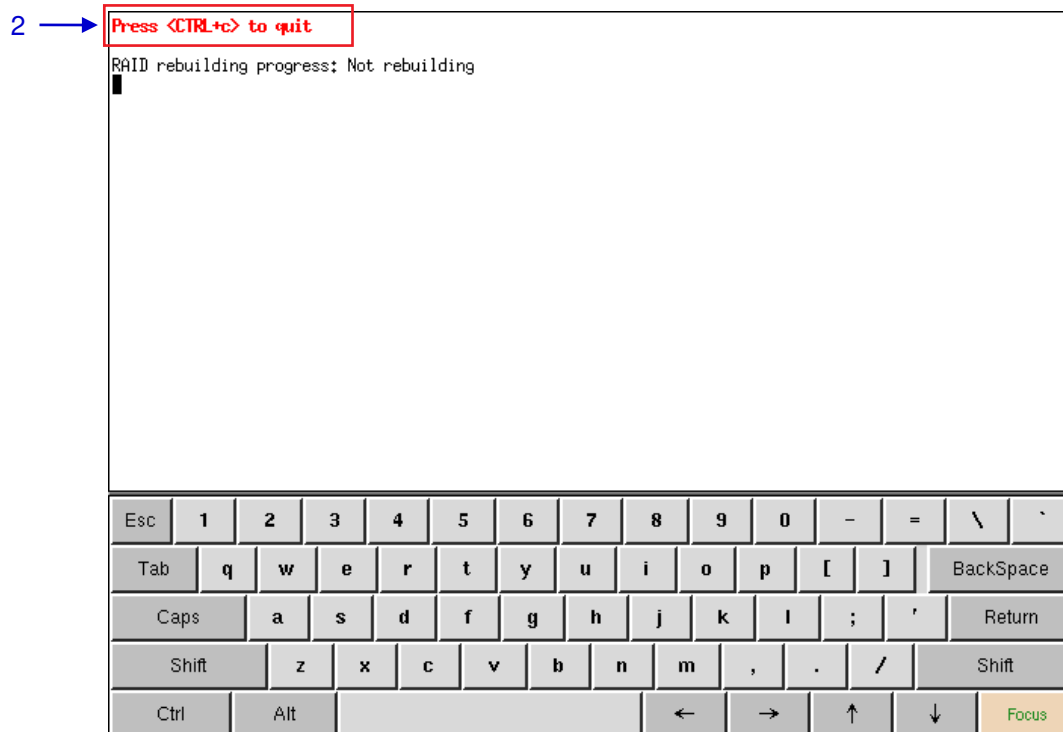

Figure 88 Status of active RAID in the IMB.
- 1 Select **Monitor RAID Status**. When the RAID is rebuilding, it displays the rebuilding progress as normal function to the previous RAID setup. A new window appears as seen in **Figure 88**.